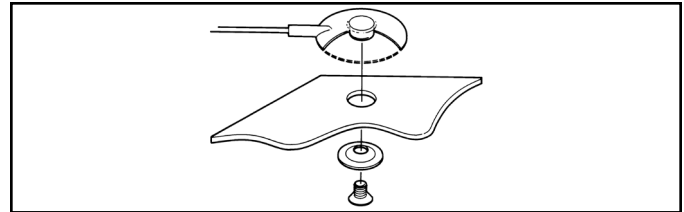

Figure 6. Screw allows ground cord to be bolted to mat to keep cord from disconnecting
4. Route the mat monitor cord from the monitor to the worksurface mat. Use either the included push and clinch snap or washer and screw to secure the cord to the mat (see Figure 6).